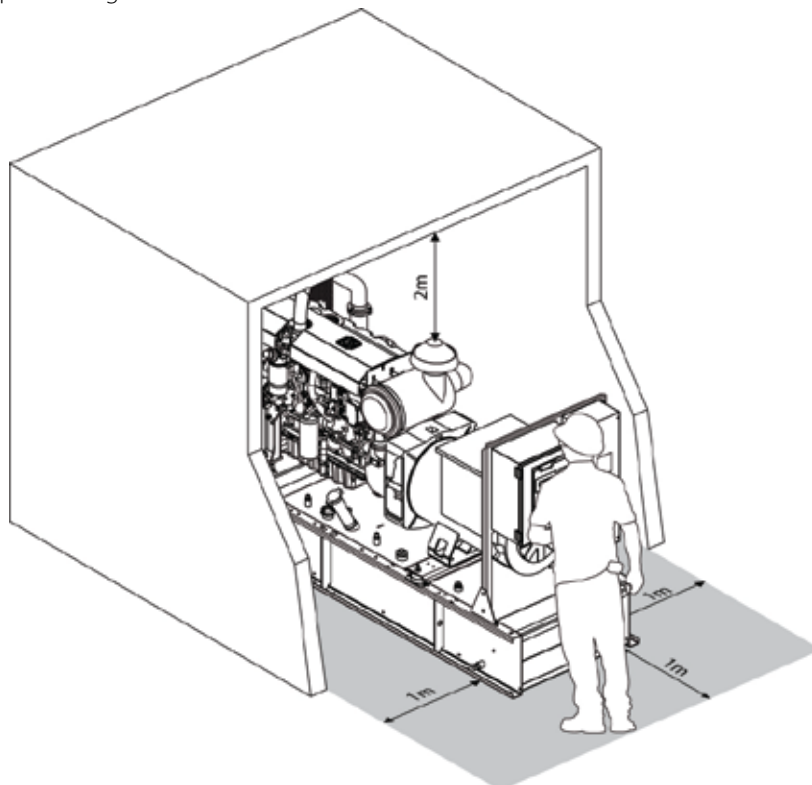

Figure 4b – Typical installation showing generator set access and operator workstation
- Clearance around the generator set for cooling and access for service: at least 1 metre (3ft 3in) around the set and at least 2 metres (6ft 6in) headroom above the set. (See Figure 4b)